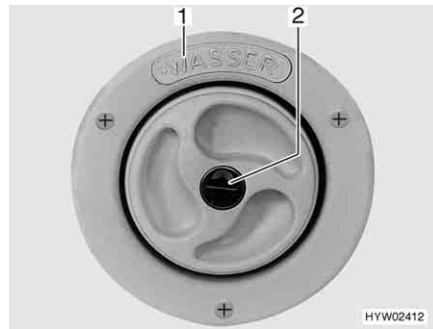
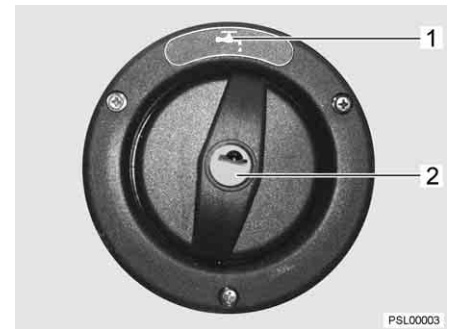

Fig. 146 Drinking water filler neck
Fig. 147 Drinking water filler neck (alternative)
The drinking water filler neck is labelled by the word "WASSER" (water) (Fig. 146,1) or marked by the symbol "☰" (Fig. 147,1). The cap is open and closed using the key for the external flap locks.
- Open drinking water filler neck (Fig. 146 or Fig. 147) (see chapter 6).